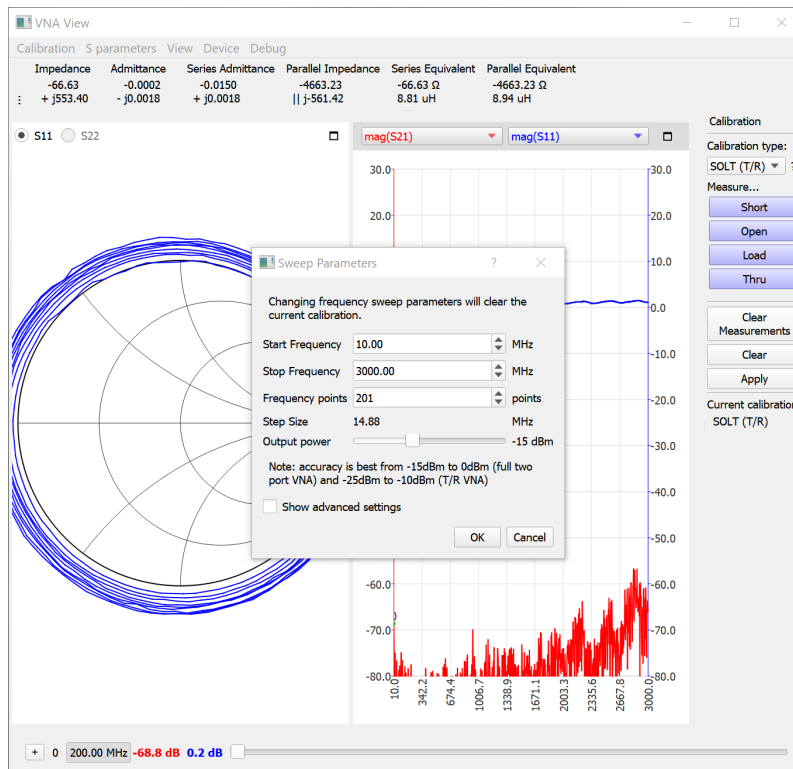

Figure 13: Frequency setting in VNA View.
3. To change the frequency range, click *Device*→*Sweep Parameters* as shown in Figure 13. You can adjust the start and end frequency as well as the number of points. Keep in mind that you will need to change this setting every time you open the software. It is always a good practice to do sanity check on this menu each time BEFORE performing calibration.